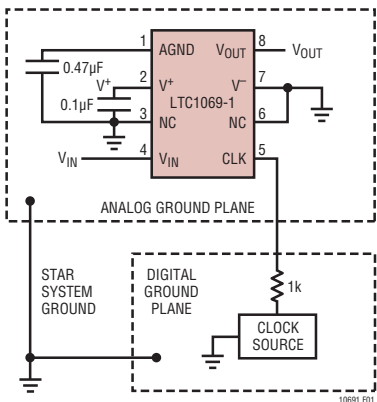

Figure 1. Connections for Single Supply Operation
For single supply operation Pin 1 should be bypassed to the analog ground plane with a 0.47μF or larger capacitor. An internal resistive divider biases Pin 1 to 1/2 the total power supply. Pin 1 should be buffered if used to bias other ICs. Figure 1 shows the connections for single supply operation.
CLK (Pin 5): Clock Input Pin. Any TTL or CMOS clock source with a square wave output and 50% duty cycle (±10%) is an adequate clock source for the device. The power supply for the clock source should not necessarily be the filter's power supply. The analog ground of the filter should be connected to clock's ground at a single point only. Table 1 shows the clock's low and high level threshold value for a dual or a single supply operation. A pulse generator can be used as a clock source provided the high level ON time is greater than 0.42μs (V_S = ±5V). Sine waves less than 100kHz are not recommended for clock signal because excessive slow clock rise or fall times generate internal clock jitter. The maximum clock rise or fall is 1μs. The clock signal should be routed from the right side of the IC package to avoid coupling into any input or output analog signal path. A 1k resistor between the clock source and the clock input pin (5) will slow down the rise and fall times of the clock to further reduce charge coupling, Figure 1.